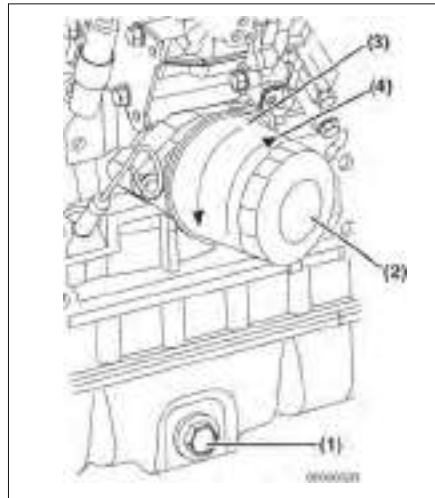

Figure 5-2
6. Remove the oil drain plug (**Figure 5-2, (1)**) from the engine oil pan. Allow oil to drain.
7. After all oil has been drained from the engine, reinstall the oil drain plug (**Figure 5-2, (1)**) and tighten to 139.8 - 47.0 ft•lb (53.9 - 63.7 N•m; 5.5 - 6.5 kgf•m).
1. Turn the engine oil filter (**Figure 5-2, (2)**) counterclockwise (**Figure 5-2, (3)**) using a filter wrench.
3. Lightly coat the gasket on the new oil filter with engine oil. Install the new engine oil filter manually by turning it clockwise (**Figure 5-2, (4)**) until it contacts the mounting surface. Tighten to 14 - 17 ft•lb (19.6 - 23.5 N•m; 2.0 - 2.4 kgf•m) or one additional turn using the filter wrench.